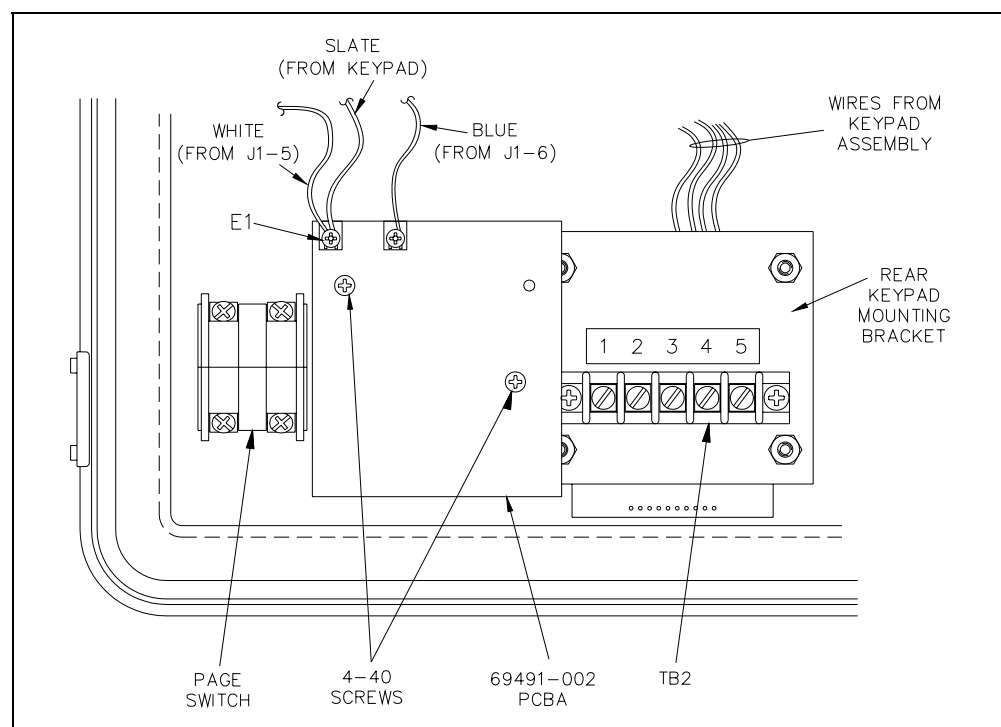

Figure 5.
4. Cut each tie-wrap that is holding the keypad wires and the 69491-002 wires to the enclosure wiring harness. Using the Phillips screwdriver, loosen all screws to remove the keypad wires from the terminal block TB2 and terminal E1 on the 69491-002. Re-tighten all loosened screws to ensure that all other wires remain connected to their appropriate locations. See Figure 5.
19. While holding the front keypad panel and keypad assembly in place, put the rear keypad mounting bracket over the hex standoffs. Ensure that the four wires from the keypad assembly exit out the top (speaker side) of the rear keypad mounting bracket. See Figure 5.. Use the four 5/16-inch hex nuts to secure the rear keypad mounting bracket. Tighten the nuts by using an “x” pattern to ensure uniform compression of the front keypad panel.